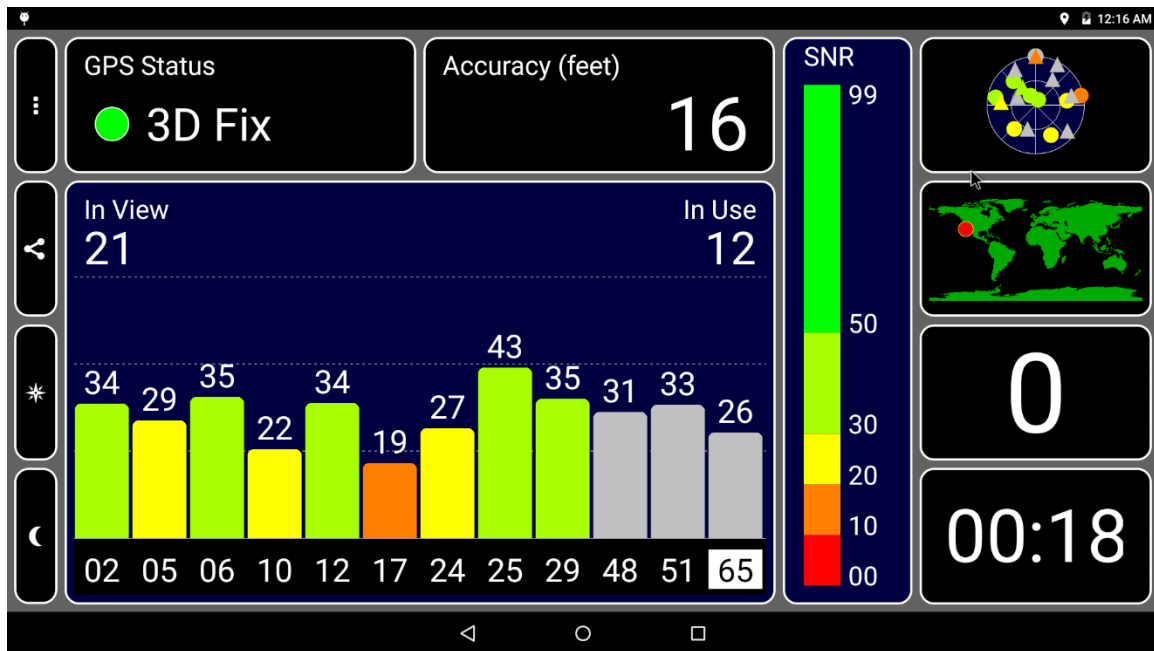
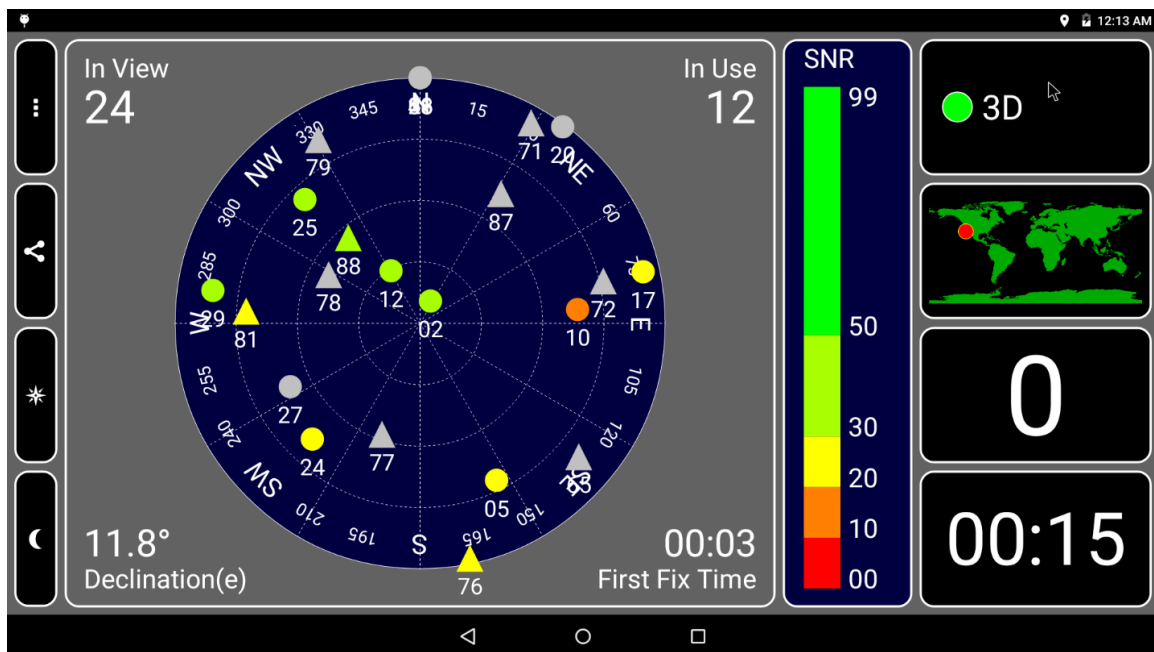
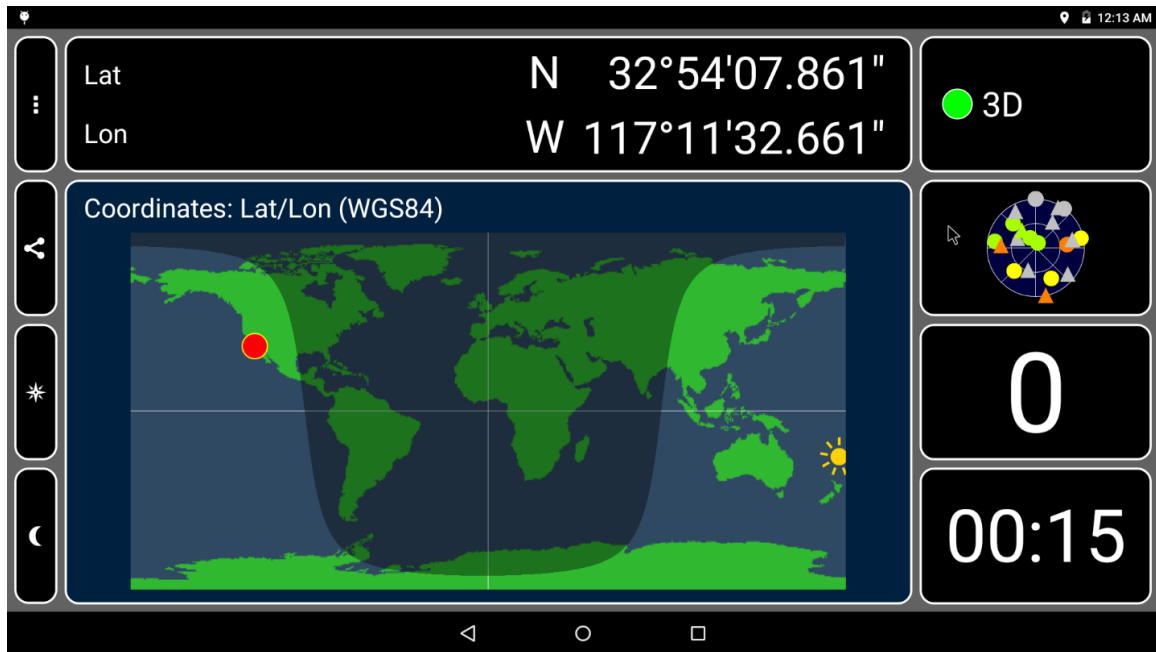
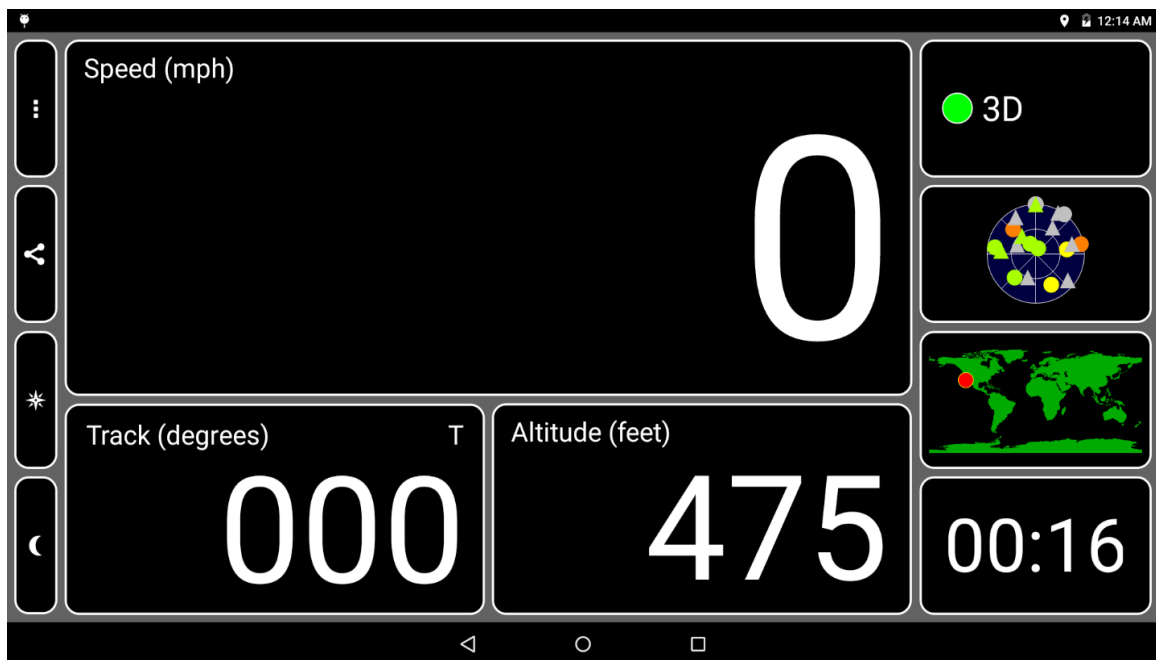

Figure 3-5 3D fix
Figure 3-6 Satellite view
Figure 3-7 Longitude and latitude of the device
Figure 3-8 Speed
8. Figure 3-5 shows the 3D Fix (3D-Latitude, Longitude, and Altitude).
Figure 3-5 shows 21 in-view satellites (number of satellites that are tracking) and 12 in-use satellites (number of satellites that are used to track).
9. Click **Satellite View** (right side, top corner box in Figure 3-5) to list all the satellites being used and tracked. If it is 3D, then position is obtained (3D – Longitude, Latitude, Altitude). In Figure 3-6, First Fix Time is 3 seconds.
10. Click on the *World Map* (right side, second box from the top in Figure 3-6) to show the Longitude and Latitude of the device in WGS84 coordinate system, as shown in Figure 3-7.
11. Click **Speed** (on the right side, third box from the top in Figure 3-7) to show the speed at which the device is moving (in miles per hour) and the Altitude of the device (in feet). Here, the device is in a constant position. So, the speed is 0 mph, as shown in Figure 3-8.
12. Click **Time** (on the right side, fourth box from the top in Figure 3-8) to see the time in UTC format, as shown in Figure 3-9.